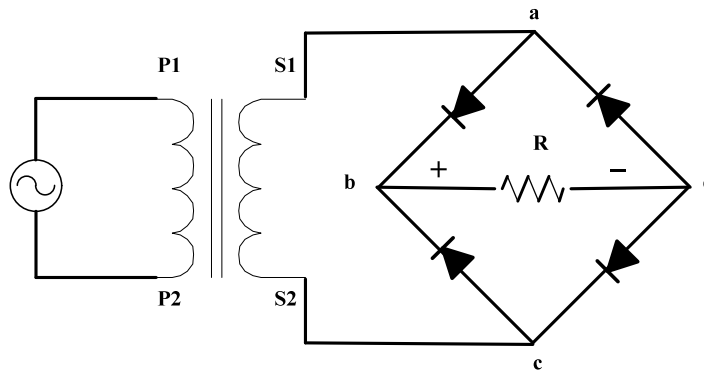

Figure 5.12 Full-wave rectifier circuit.
- (a) Connect the circuit of Figure 5.12. Use a sine wave of frequency 100Hz and 2V peak to peak as an input. This is the AC waveform that is to be full-wave rectified as shown in Figure 5.12. Let the load resistor R be 470 ohms.